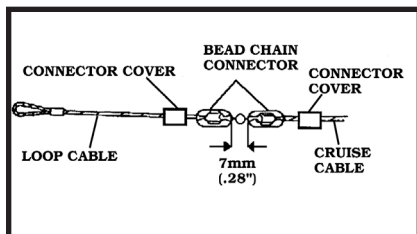

Figure 7
Example: If your throttle travels **35mm (1-3/8")**, you will need to add **one (1)** bead between connectors. **Figure 7**